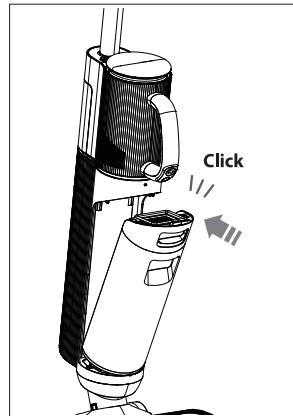

Fig. 11 – Inserting the water tank
- ▶ Insert the dirty water tank into the recess on the front of the appliance at a slight angle and press on the dirty water tank until you hear it click into place and it is seated securely (see Fig. 11).